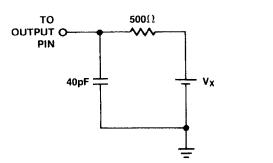

Figure 2. Output Three State Delay Load
1. Transition is measured  $\pm 500\text{mV}$  from steady state with loading specified in Fig. 2.